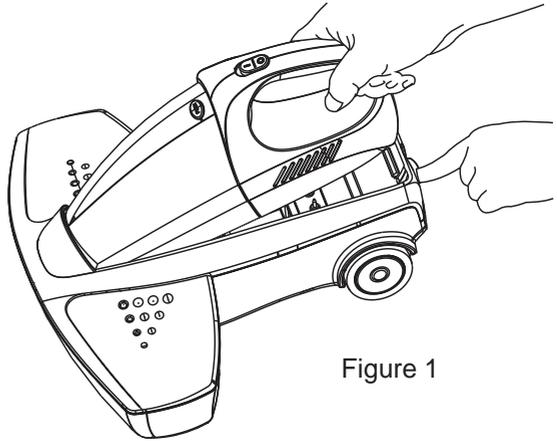

Figure 1
1. Attach the vacuum cleaner to the base unit. Insert it into the base unit and then press the rear down firmly. Press lever down when docking vacuum. Then pull up until lever clicks to lock. (See Figure 1)
2. To remove the cleaner from the base, press the lever at the rear of the vacuum base. (See Figure 1)